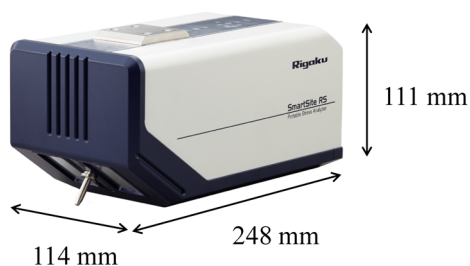
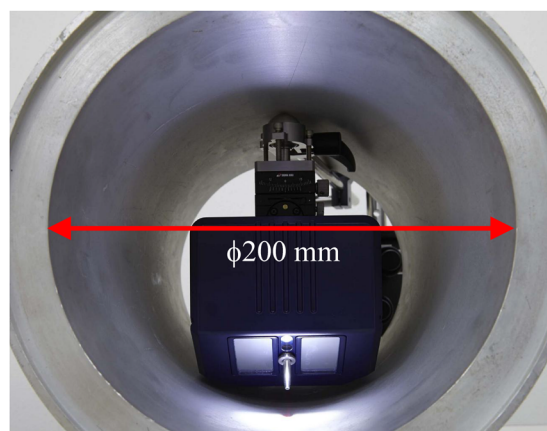

Fig. 1. SmartSite RS head unit appearance and dimensions.
Fig. 2. Example for a residual stress measurement from the inner surface of a 200 mm bore.
The world's smallest measurement head with dimensions of 114 (W)×248 (D)×111 (H) mm and a weight of 3 kg (Fig. 1) enables residual stress measurement from the inner surface of a 200 mm bore (Fig. 2).